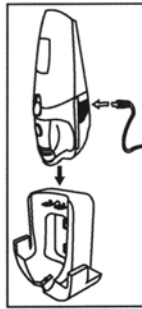

Fig. 1
3. Place the unit in the charging base. The charging indicator light will shine green to indicate that the vacuum cleaner is properly positioned in the charging base and that the unit is being charged. (Fig. 1)